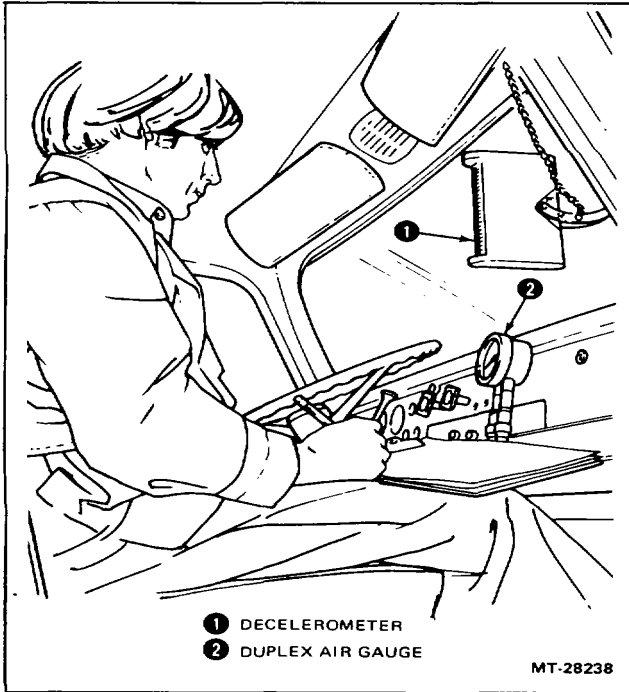

Figure 31 - Test Instrumentation (In-Cab)
1. Mount a decelerometer (Figure 31) to the inside windshield - as follows:
2. Install the single or duplex air test gauge (Figure 31) and connections as follows: